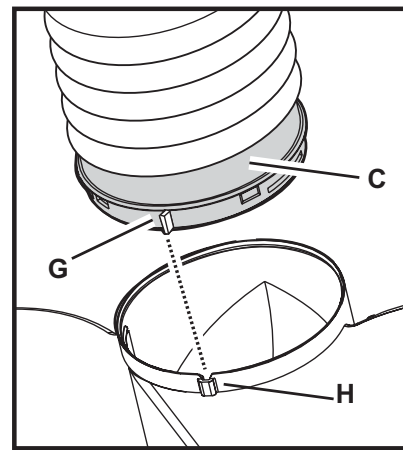

Fig. 11
- Install a discharge tube on the connection ring **C** supplied, preferably with a diameter equivalent to the connection ring (**Fig. 11**). the discharge tube should be sufficiently long to reach outside (Suction version) or the ceiling of the wall cabinet (Filter version).